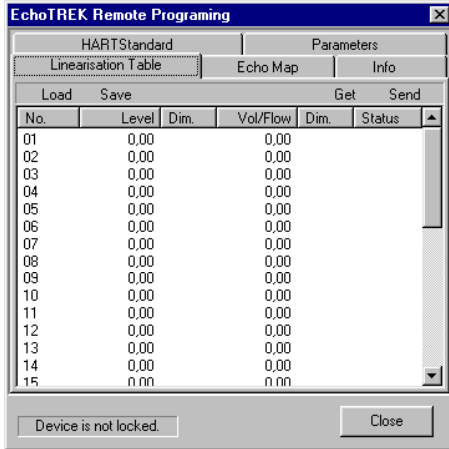

Figure 6
- Linearisation Table(Figure 6)
Clicking on the relevant tab the *Linearisation Table* can be accessed (Figure 6). Left- or right-value of data-pairs can be accessed by clicking twice on the appropriate row. Values modified in the *Editing Window* has to be sent to the field device, which is checking the modification for correctness. Is the modification not correct, Error indication appears under Status and the previous value will not be changed. Is the modification correct, OK appears under Status and the table can be loaded and saved in file for further use.